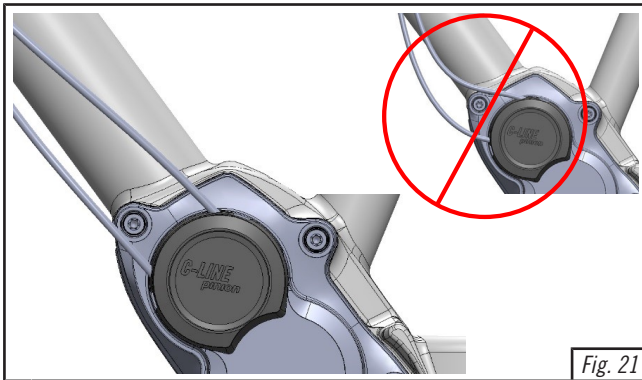

Fig. 21
- Pay attention to the minimum bend radii of the cables. The number of radii does not matter to the cable (see Fig. 21).